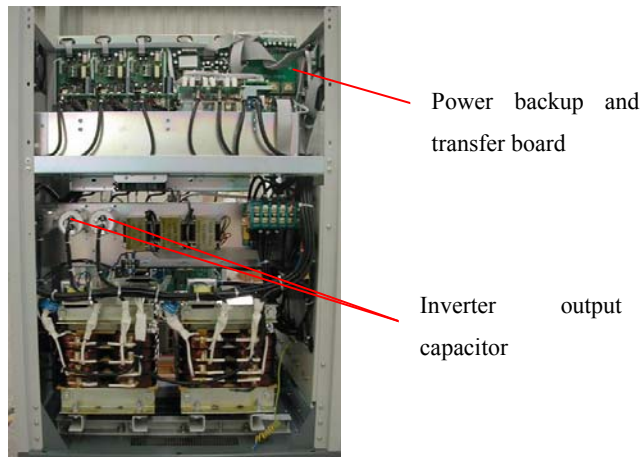

Figure 5-23 Replace the power backup and transfer board, inverter output capacitor
- D. Replace the bad power backup and transfer board or inverter output capacitor, as shown in figure 5-23.